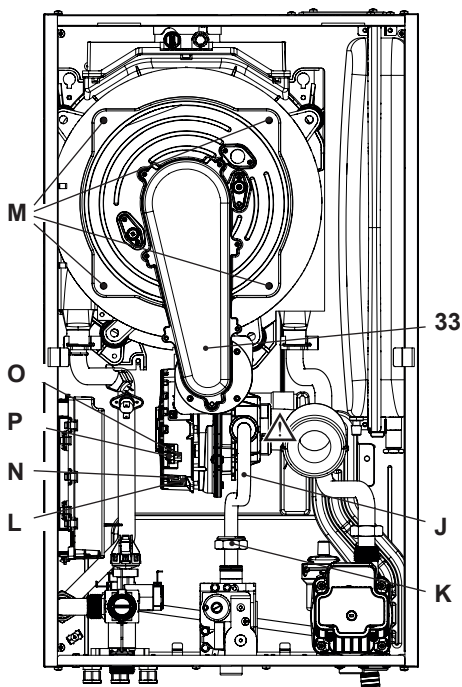

Fig. 10.8
Removing the fan burner unit 33 in Fig. 10.8.
- Insert a flat screwdriver in the connector recess **L** and lever towards the bottom, disconnect the connector at the same time **N** by pulling towards the front **N** (Fig. 10.8).
- Disconnect the fan connector **O** by pressing the plastic hook **P** positioned at the bottom part of the connector (Fig. 10.8).
- Unscrew screws **M** and remove the fan burner unit 33 (Fig. 10.8)